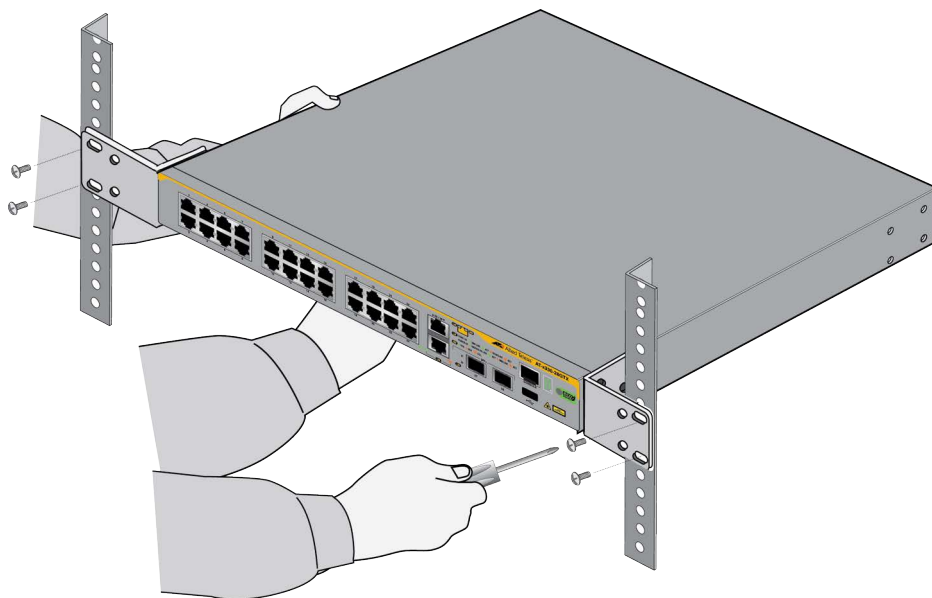

Figure 45. Securing the x330-28GTX Switch in a Standard 19-inch Equipment Rack
3. Have another person hold the switch at the selected location in the equipment rack while you secure it using four standard equipment rack screws (not provided). Refer to Figure 45 on page 94.